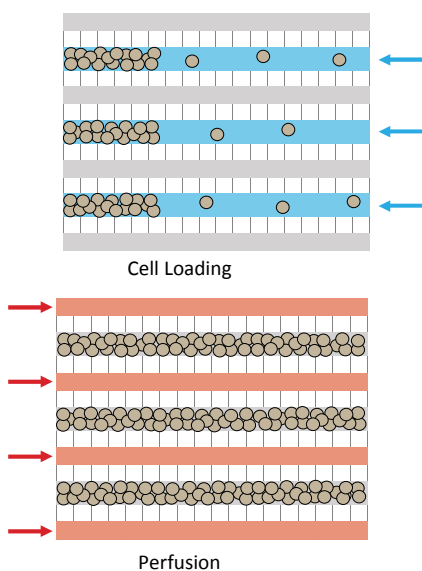

Figure 3. Cell Loading and Perfusion
8. As soon as cells are pipette into an entire column of the plate, turn on the vacuum switch for that column (set at 20 inches W.C. on the gauge) for approximately 15 seconds. This will drive the cells into the microfluidic structures (Figure 3).
12. The plates are fed via gravity perfusion from the inlet to the outlet wells. Medium will continuously flow through the perfusion channels (Figure 3) allowing exchange with the cultured cells.